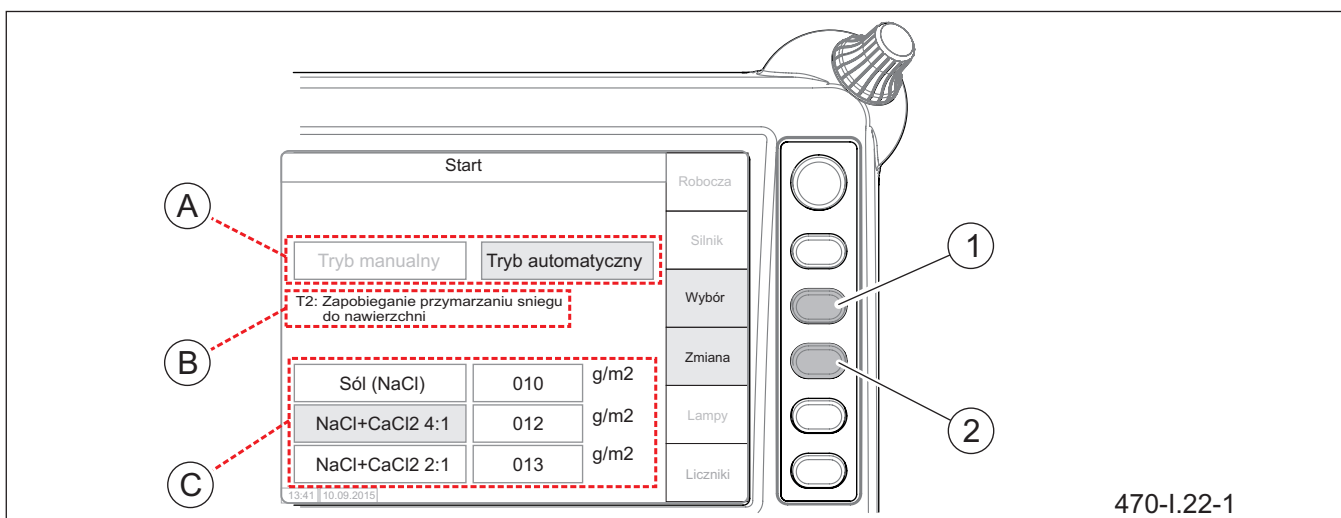

Figure 5.23 Select automatic mode
- on the "Start" home page of the control panel (Figure 5.23), use button (1) to check the box (A) for selecting the operating mode,
- select one of the three defined modes T1, T2, T3 by means of push-button (1) "Selection",
- by means of push-button (1), mark field (C) and then, by means of push-button (2) „Change”, select (C) type of material to be spread that is